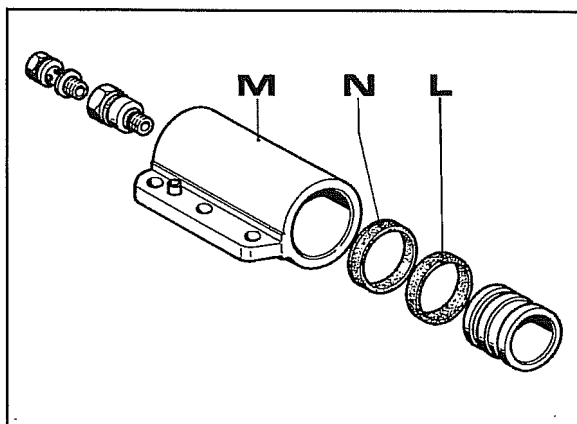

Fig. 31
Fig.31 gives an exploded view of the parts comprising the cylinder/piston.
h. Substitute seal ring **N** Fig.31.